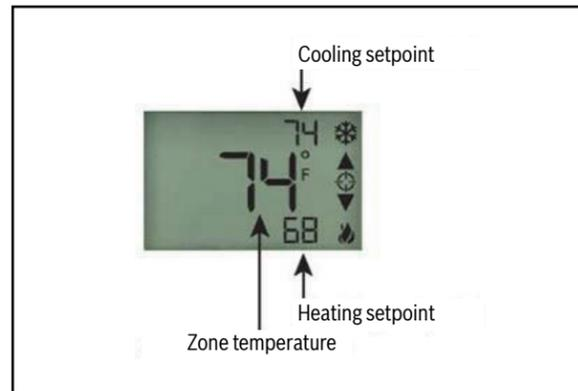

Fig. 27
5. Partially cut, then bend and pull off the outer jacket of the Rnet cable(s). Do not nick the inner insulation (Fig. 27).